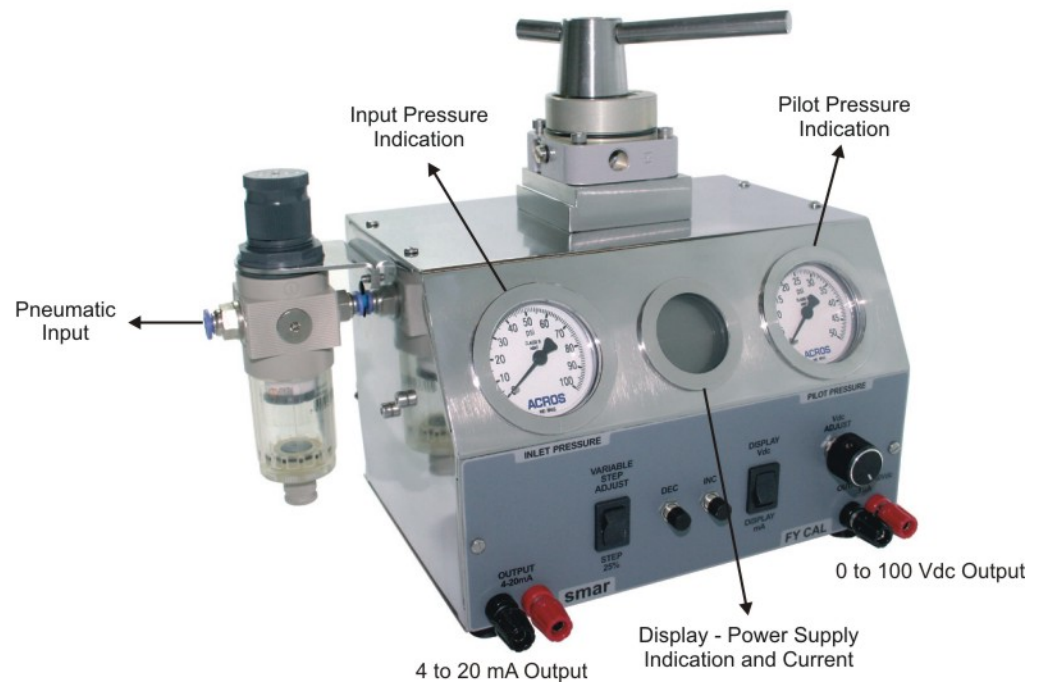

Figure 6.14 – FYCAL – Piezoelectric calibration
1. Assemble the base in the FYCAL according to the figure 6.14: